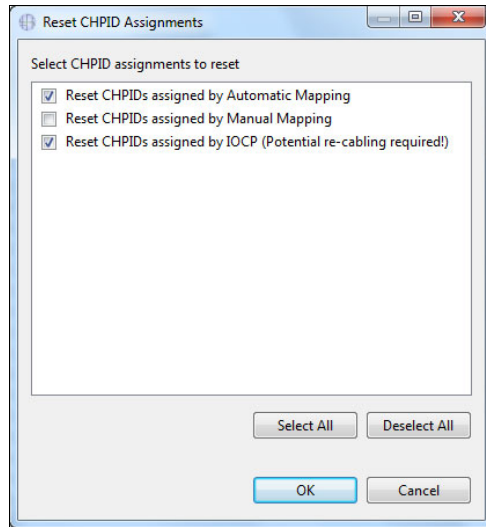

Figure 8-77 CMT - Reset CHPID Assignments
2. The Reset CHPID Assignments window opens with Reset choices (Figure 8-77 on page 478). For the example, select the following two options and then click **OK**: